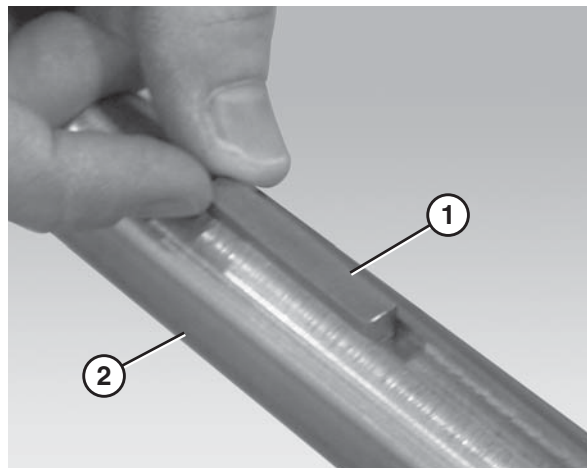

Figure 15
1. Insert the drive spindle key (Figure 15, item 1) into the drive spindle keyway (Figure 15, item 2).